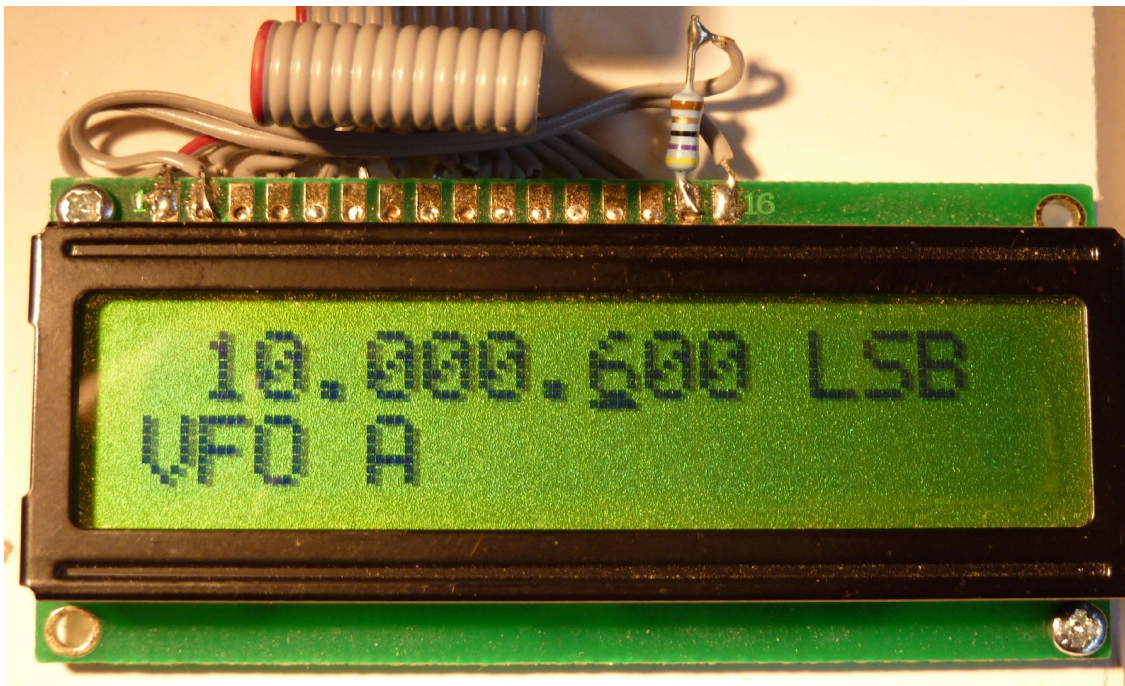

Fig 6: LCD Connections and 47 Ohm Resistor soldered to pin 15 with link to pin 2 (+5V). Pin 16 is linked to pin 1 (GND)
- () Remove a 2mm insulation from the end of each of the wires. Refer to Fig 6. and Solder the 14 wires to the LCD module. Observe connections as shown in fig 5. (J1 pin 1 connects to LCD pin 1, J2 pin 2 to LCD pin 2 etc)
- () **LCD Backlight connections J1:** Caution - the following instructions are only valid for LCD modules supplied by SDR-Kits: Use the two wires removed previously and solder one wire from LCD Pin 1 to LCD Pin 16. Solder one end of the 47 Ohm resistor to LCD module pin 15 and the other end of the resistor to Pin 2 of the LCD module. (This is shown in fig 6.)
- () The LCD Screen should display the Welcome Message as shown in Fig 6. after Power up and the Frequency should change when turning the Tuning Control.